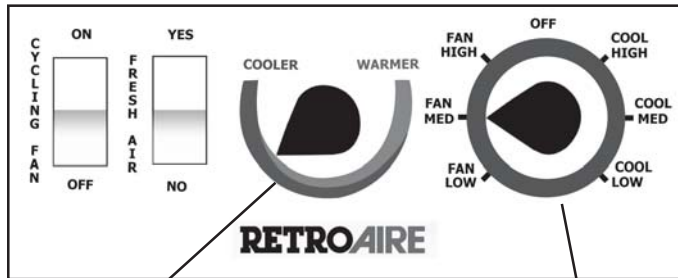

Figure 6
2. Rotate thermostat knob (*Figure 6*) clockwise until the compressor fans start running and cold air begins to flow from the unit. For a colder room temperature, continue turning the thermostat knob clockwise and let the unit continue operating to cool the room and remove humidity. If a warmer room temperature is desired, rotate the thermostat knob counter-clockwise until the compressor cycles off.
Turning the unit mounted thermostat knob to the right (red) will produce warmer air temperature while turning it to the left (blue) will produce cooler. These settings can be adjusted for personal comfort. (*Figure 6*)